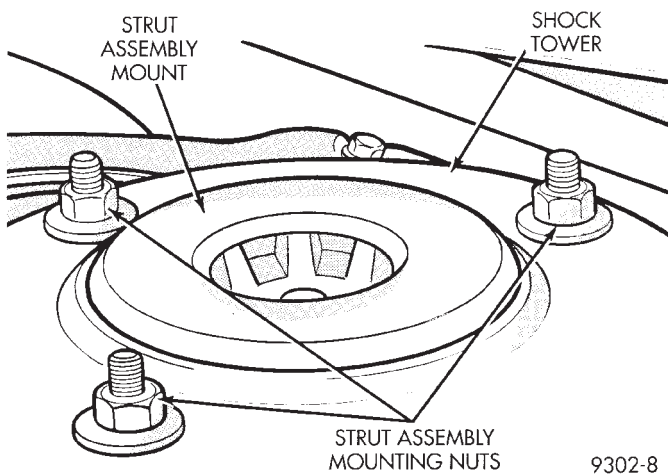

Fig. 14 Strut Assembly Mounting
(9) Remove the 3 strut assembly upper mount to strut tower mounting nut and washer assemblies (Fig. 14).
(10) Remove the strut assembly from the vehicle for inspection and or disassembly.
(1) Install front strut assembly into shock tower. Install the 3 strut assembly upper mount to shock tower attaching nuts (Fig. 14). Tighten the 3 strut mount to strut tower attaching nuts to a torque of 33 N·m (25 ft. lbs.) torque.
(2) Position steering knuckle into strut assembly.